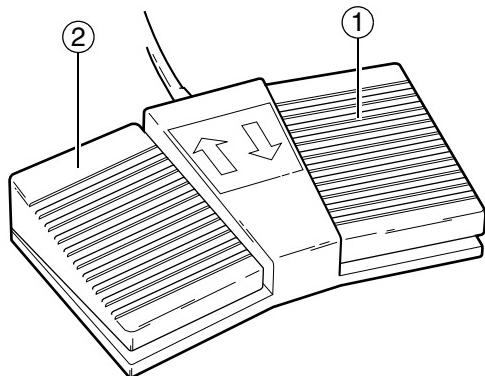

Fig. 11 Foot switch
5. Check the function of the foot switch for motorized compression/decompression (1 and 2/Fig. 11).